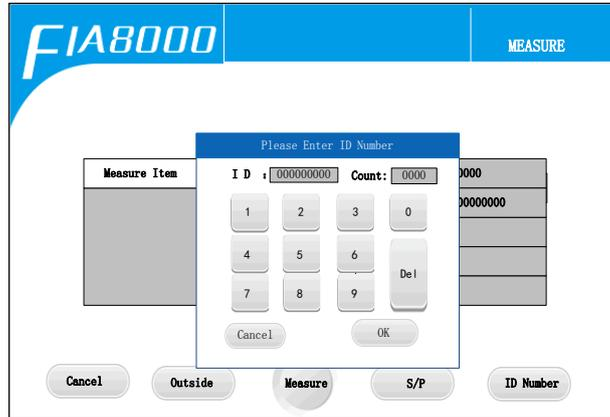

Fig.5 ID set interface
4. ID Number: Click this icon manually to set the desired ID Count, as shown in Fig.5, Click on the "Count" icon to switch to Count Input Mode. Set Count when ID is not 0 and Count will minus one automatically after each measurement, and ID number will increase automatically until the Count value is zero.